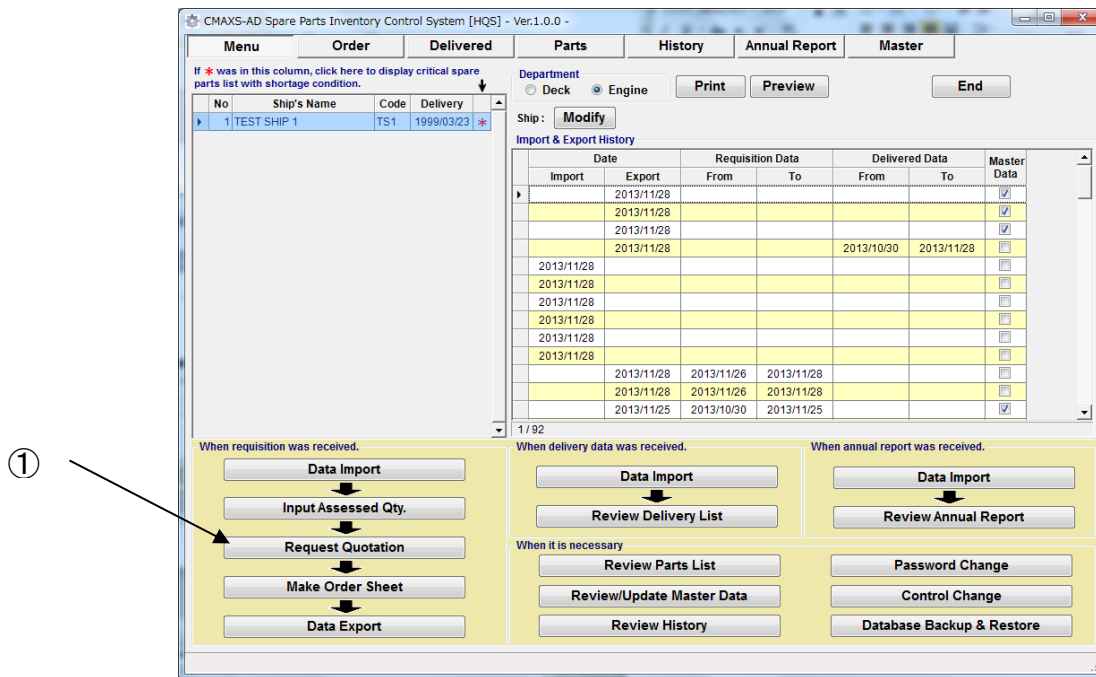

Fig.7-1 Menu Screen
- (1) On the "Menu Screen"(Fig.7-1), select [Request Quotation].